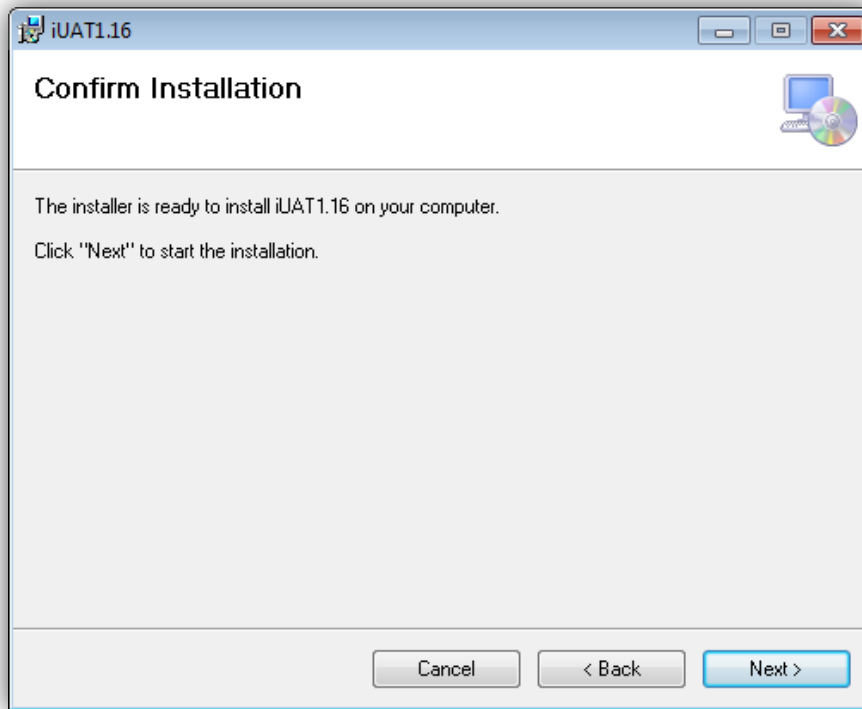

Figure 7: Ready to install the iUAT program
8. A confirmation window will appear, click “Next” to start the installation (Figure 7).